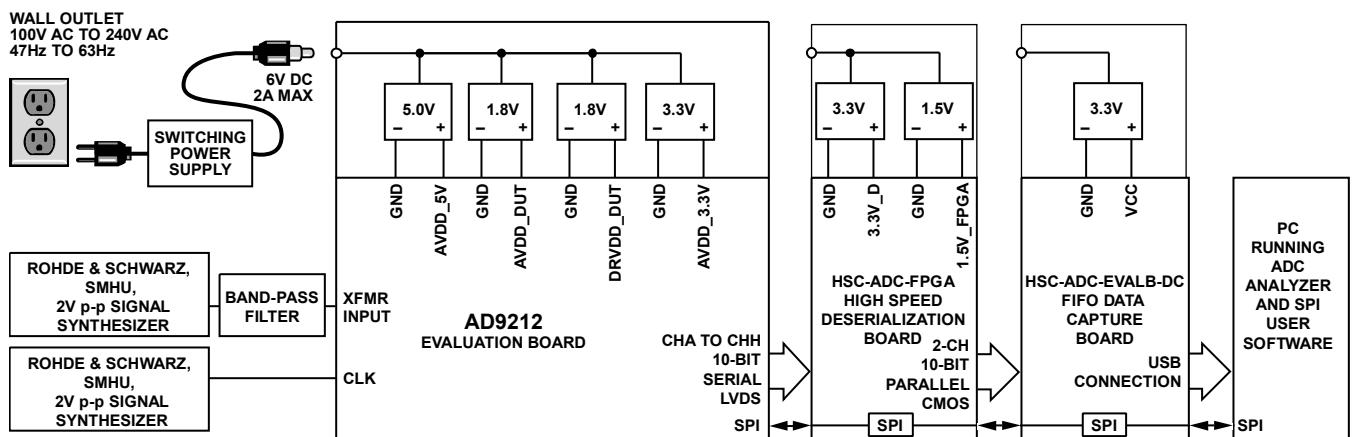
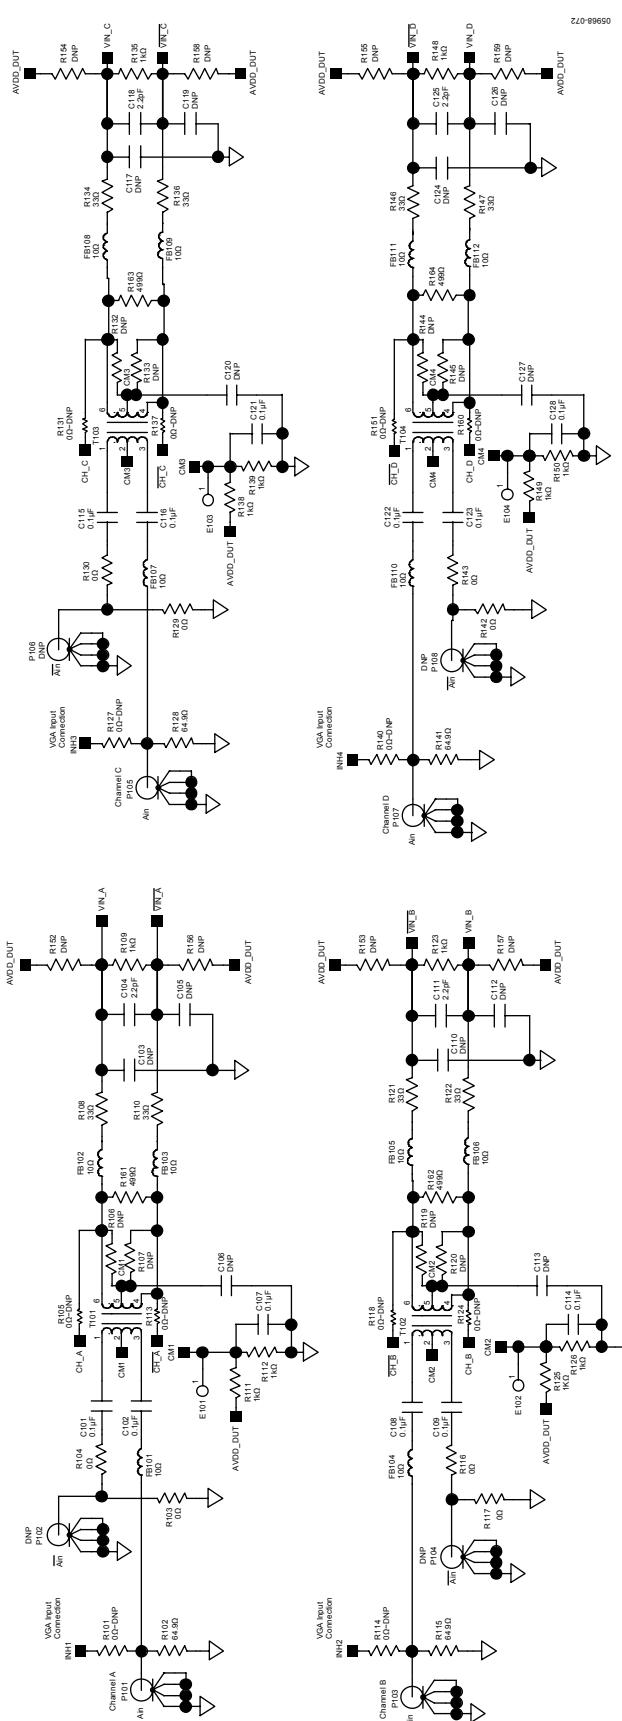

Figure 74. Evaluation Board Connection
Figure 76. Evaluation Board Schematic, DUT Analog Inputs
The AD9212 evaluation board provides all of the support circuitry required to operate the ADC in its various modes and configurations. The converter can be driven differentially through a transformer (default) or through the AD8334 driver. The ADC can also be driven in a single-ended fashion. Separate power pins are provided to isolate the DUT from the AD8334 drive circuitry. Each input configuration can be selected by proper connection of various jumpers (see Figure 76 to Figure 80). Figure 74 shows the typical bench characterization setup used to evaluate the ac performance of the AD9212. It is critical that the signal sources used for the analog input and clock have very low phase noise (<1 ps rms jitter) to realize the optimum performance of the converter. Proper filtering of the analog input signal to remove harmonics and lower the integrated or broadband noise at the input is also necessary to achieve the specified noise performance.
See Figure 76 to Figure 86 for the complete schematics and layout diagrams that demonstrate the routing and grounding techniques that should be applied at the system level.
- D+, D-: If an alternative data capture method to the setup described in Figure 76 is used, optional receiver terminations, R318, R320 to R328, can be installed next to the high speed backplane connector.